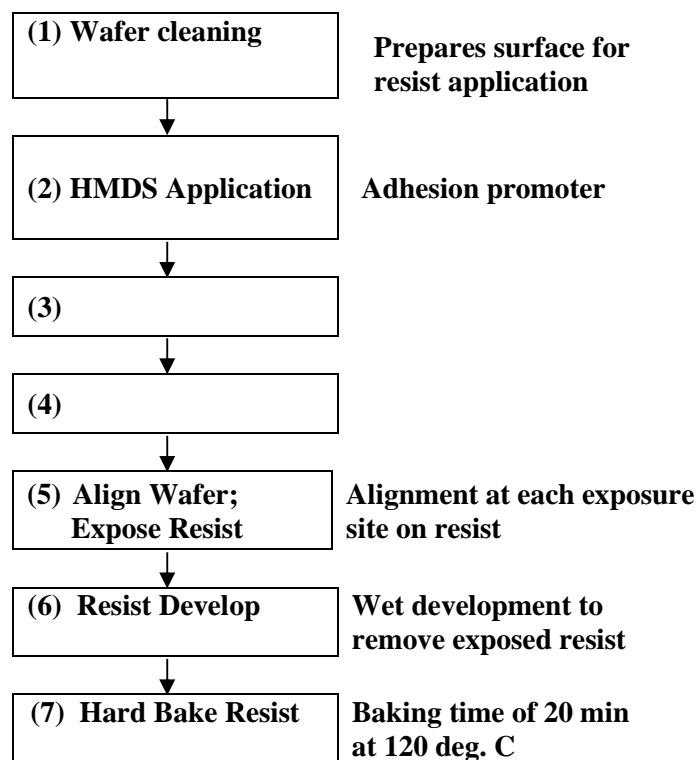

Figure 1
3. Figure 1 shows the various steps in a lithographic process. What are the two process steps indicated in boxes (3) and (4)? Provide typical process parameters used in these steps.